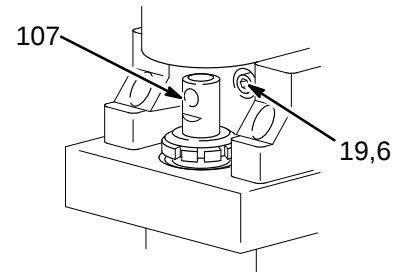
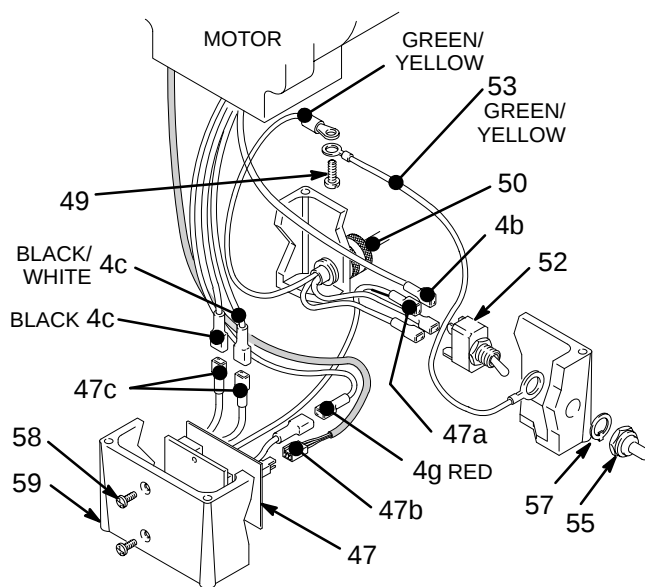

Fig. 19
Fig. 21
3. Remove the screws (56) and lower the junction box (59). Disconnect the motor wires and the pressure control wire (A) from the motor start board. Refer to Fig. 21 on page 24.
4. Remove the front cover (13).
5. Turn the displacement pump rod (107) so the pin hole aligns with the bottom drive housing screw (19). See Fig. 19. Remove the three drive housing screws and lockwashers (19,6). Also see Fig. 20.
6. Remove the two motor screws (5) and the lock washers (6).
7. Tap the lower rear of the drive housing (11) with a plastic mallet to loosen the motor. Pull the drive housing straight off the motor while guiding the harness (A) from the motor. Do not allow the gear (16) to fall. Read the CAUTION on page 25.
8. Remove the two screws (46) and lift the motor off the base (66).
9. Align the new motor with the base and reinstall the screws (46).
11. Connect the wires in the junction box. Refer to Fig. 21 on page 24. Install the junction box.
12. Connect the piston rod (107) to the drive housing; see page 22, **Installing the Pump**, Step 2 and the WARNING following it.
NOTE: See Fig. 21 for this procedure.